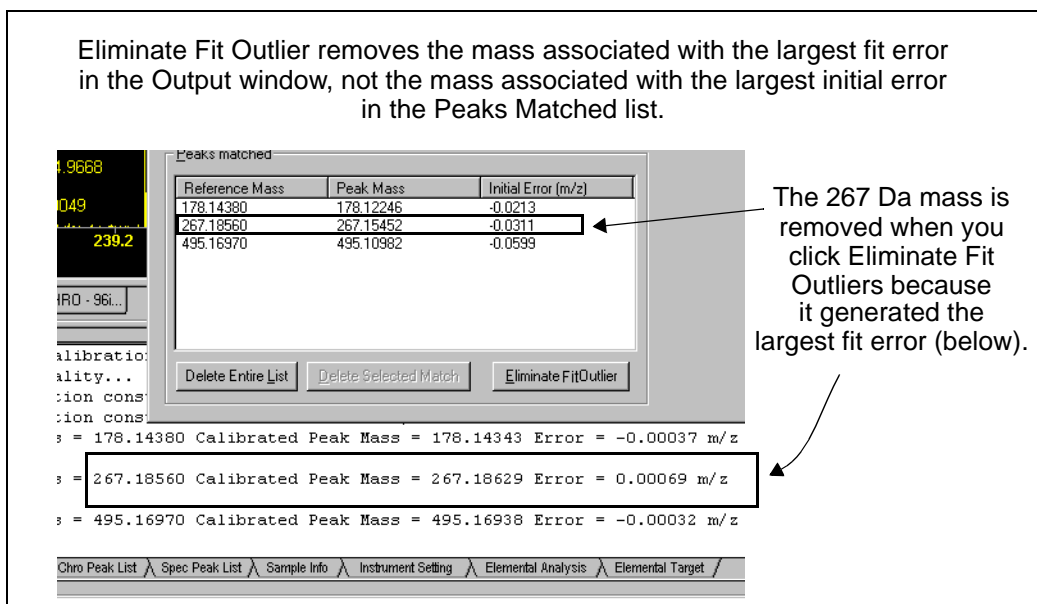

Figure 5-4 Eliminate Fit Outlier Deletes the Match with the Largest Fit Error from the Output Window
- Click **Eliminate Fit Outlier**. The software deletes from the calibration the data point with the largest calibrated Fit Error (difference between the calibrated mass and the reference mass) as reported in the Output window (Figure 5-4).